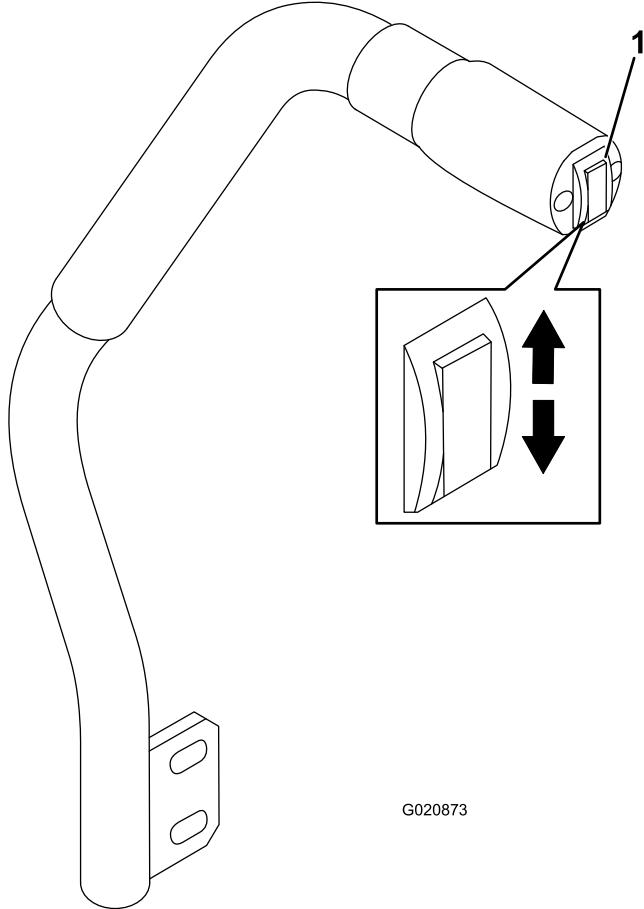

Figure 18
The deck-lift switch raises and lowers the mower deck (Figure 18). The engine must be running for you to use this lever.
- To lower the mower deck, push the deck-lift switch down (Figure 18).
- To raise the mover deck, push the deck-lift switch up (Figure 18).
1. With the engine running, push the deck-lift switch up until the mower deck is fully raised, and **release the switch immediately** (Figure 18).